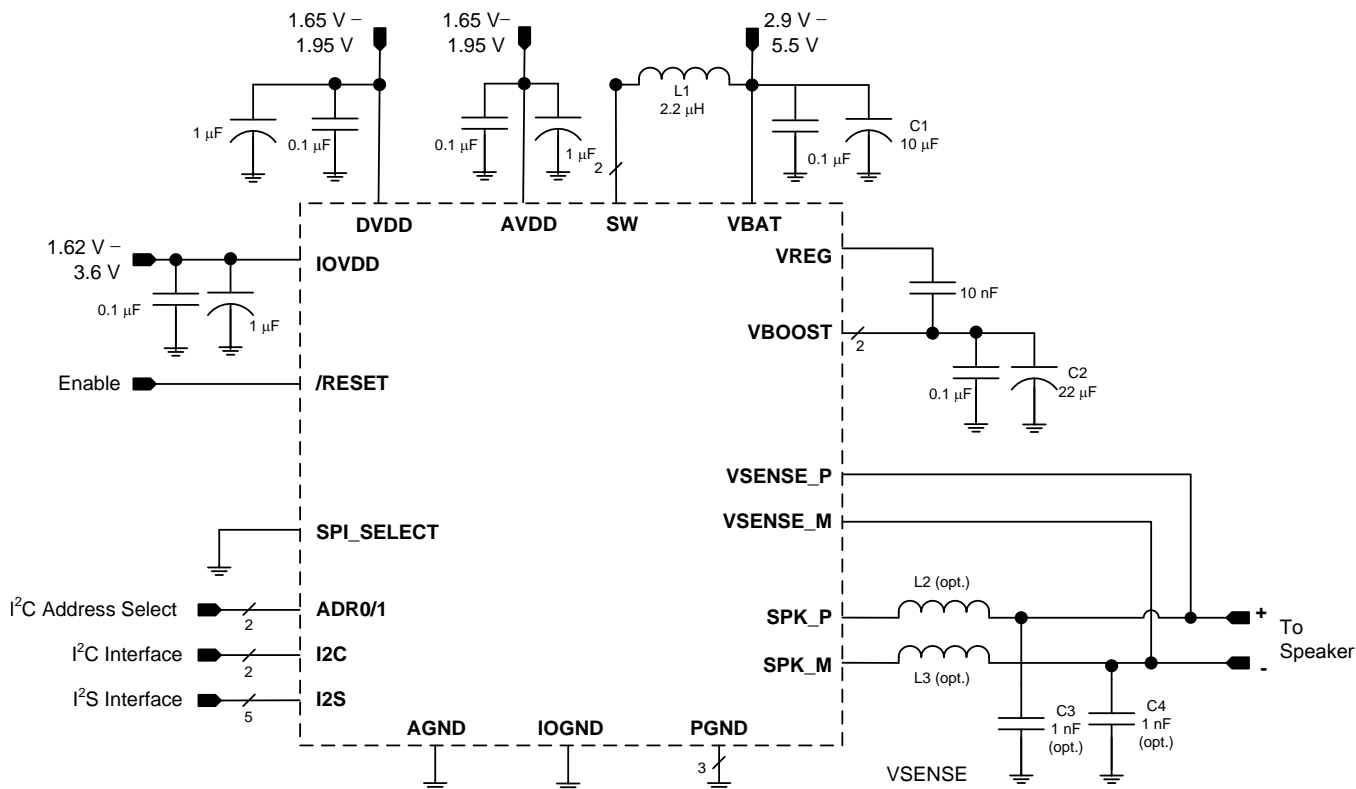

Figure 38. Typical Application - Digital Audio Input
The boost converter requires three passive devices that are labeled L1, C1 and C2 in Figure 38 and whose specifications are provided in Table 4. These specifications are based on the design of the TAS2555 and are necessary to meet the performance targets of the device. In particular, L1 should not be allowed to enter in the current saturation region. The saturation current for L1 should be > I_{LIM} to deliver Class-D peak power.
The TAS2555 device supports edge-rate control to minimize EMI, but the system designer may want to include passive devices on the Class-D output devices. These passive devices that are labeled L2, L3, C3 and C4 in Figure 38 and their recommended specifications are provided in Table 4. If C3 and C4 are used, they must be placed after L2 and L3 respectively to maintain the stability of the output stage.
- Use supply decoupling capacitors as shown in Figure 38 and described in Power Supply Recommendations.